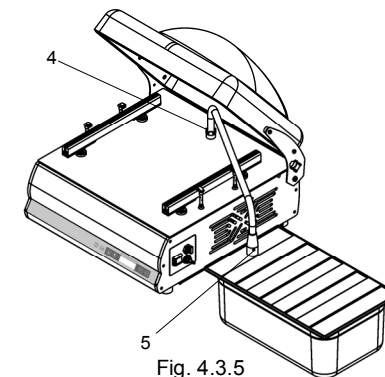

Fig. 4.3.5
- Attach the suction kit pipe (ref. 4 fig. 4.3.5)
- Attach the suction kit lid nut to the tray lid valve (ref. 5 fig. 4.3.5)